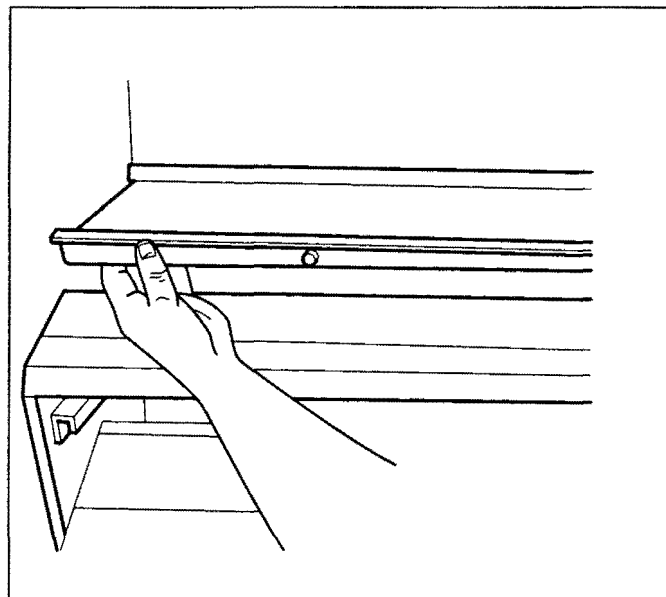

Figure 2-23. Center Divider
2. Now remove the lower mullion divider by pushing up from underneath, then remove both mullion divider supports (Figure 2-23).
2. Remove the lower mullion divider by pushing up from underneath (Figure 2-23), then remove both mullion divider supports (700TR & 700BR Only).